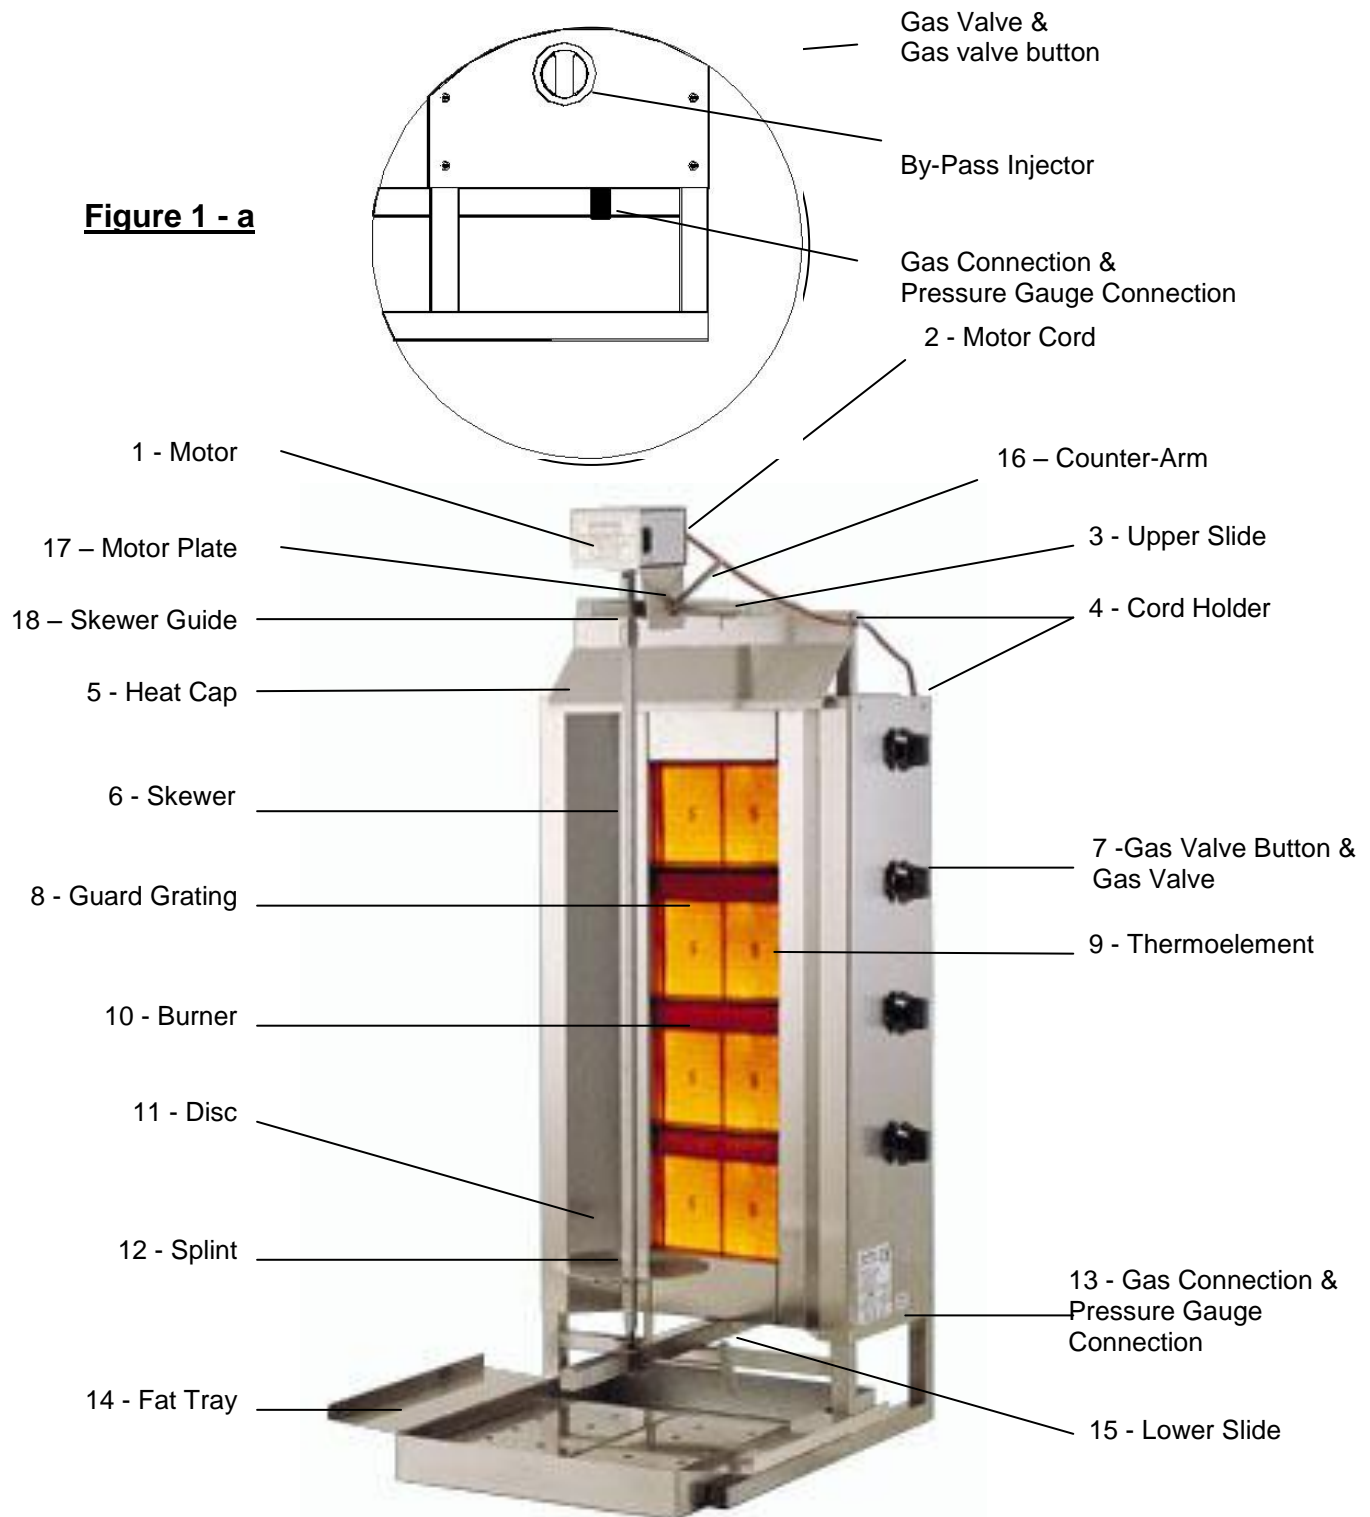

Figure 1 - b
- * Use the Heat Cap (5) being an original part of the appliance, in order to protect the motor from excessive heat during operation.(Figure 1-b)
After installing the appliance in compliance with the regulations mentioned in the User's Manual the fat tray and the motor (Figure 1–b) are inserted, making the appliance ready for use. In these types of appliances, unscrew upper and lower slide arms for the meat grilling. The distance between the skewer (6) with meat on, and the burners is adjusted with the help of these arms.
(Figure 1-b)**
Please follow the following procedure to operate your appliance without motor. (Figure 1-b)